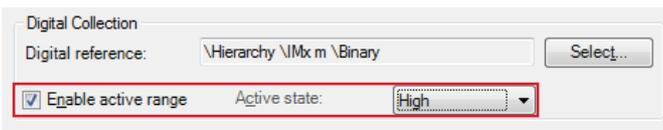

Fig. 12. Enable active range and set active state.
- Check **Enable active range** and set the **Active state** as "High", then click **OK** (→ fig. 12).